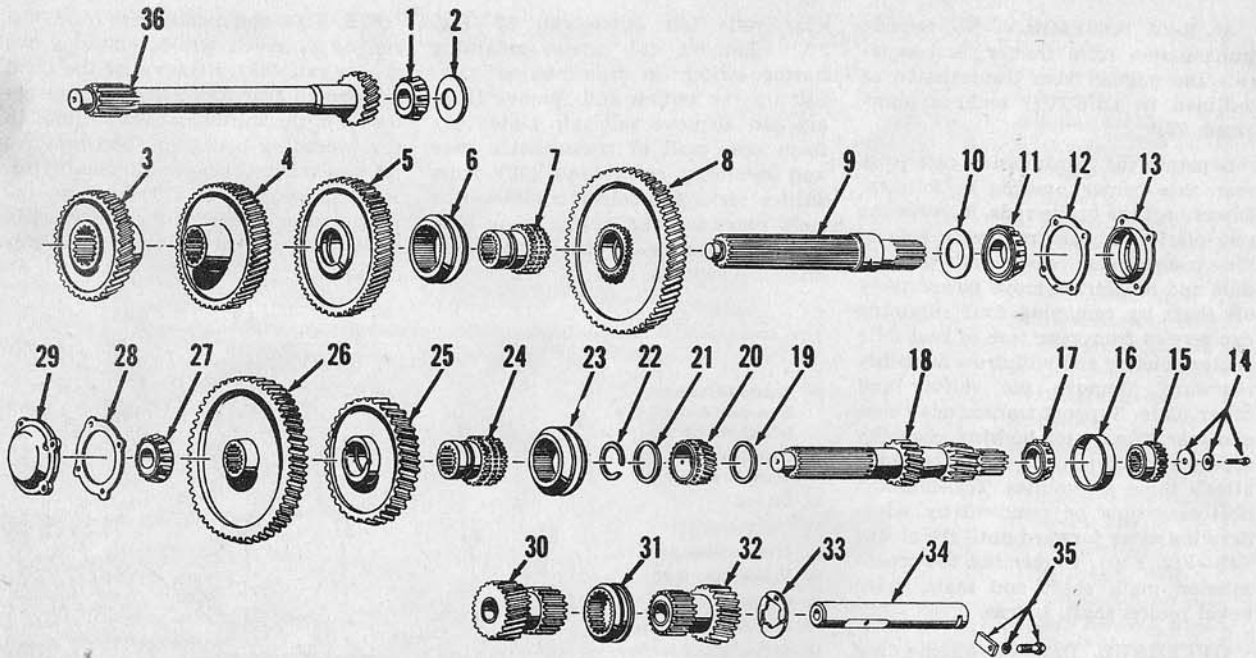

Fig. F33—TO20, and TO30 transmission shafts, gears and components. Gears (8 & 20) rotate on needle bearings. Refer to Fig. F35.
Fig. F30—Models TO20, and TO30 Transmission assembly—left side sectional view. Shims (12) and (51) control bearings adjustment of their respective shafts. Model TE20 is similar. Refer to Figs. F33 and F34.
82. MAIN DRIVE GEAR (CLUTCH) SHAFT. Transmission main drive gear and shaft (integral with clutch shaft) Fig. F31, can be overhauled after performing a tractor split, as outlined in paragraph 72, and removing transmission shifter control cover. Remove the two clutch release bearing springs (59) and the brake cross shaft. Remove cap screws from main drive gear bearing carrier (37—Fig. F30 or F31) and withdraw assembly forward and out of transmission case. The transmission main shaft pilot bearing (1—Figs. F33 & F34) main drive gear and shaft bearing (39—Fig. F31) and oil seal (38) of neoprene or treated leather can be renewed at this time.
86. REVERSE GEAR AND SHAFT. First step in overhauling this assembly is to remove the transmission main shaft and countershaft as outlined in paragraphs 84 and 85. Remove reverse shaft positioning lock and capscrew (35—Fig. F33 or F34). Withdraw shaft (34) rearward and remove gears and thrust washer through top of housing. The reverse drive gear (30) and idler gear (32) rotate on bronze bushings. Worn bushings are serviced by renewing the gear and bushing as an assembly.